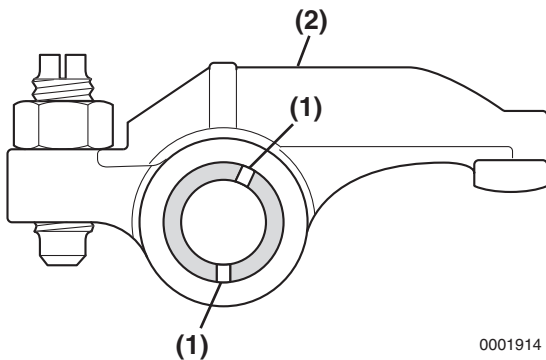

Figure 6-71
Ensure the lubrication holes (**Figure 6-71, (1)**) in the rocker arm shaft are oriented correctly with respect to the rocker arms (**Figure 6-71, (2)**).